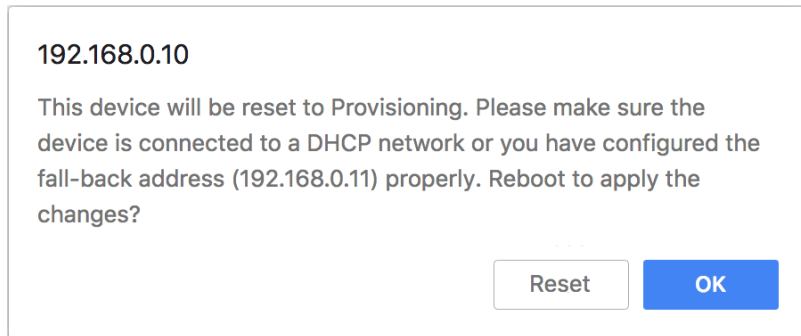

Figure 20. Unit reboot dialog (typical)
- The web browser will show the unit reboot dialog (Figure 20 \(page 46\)).